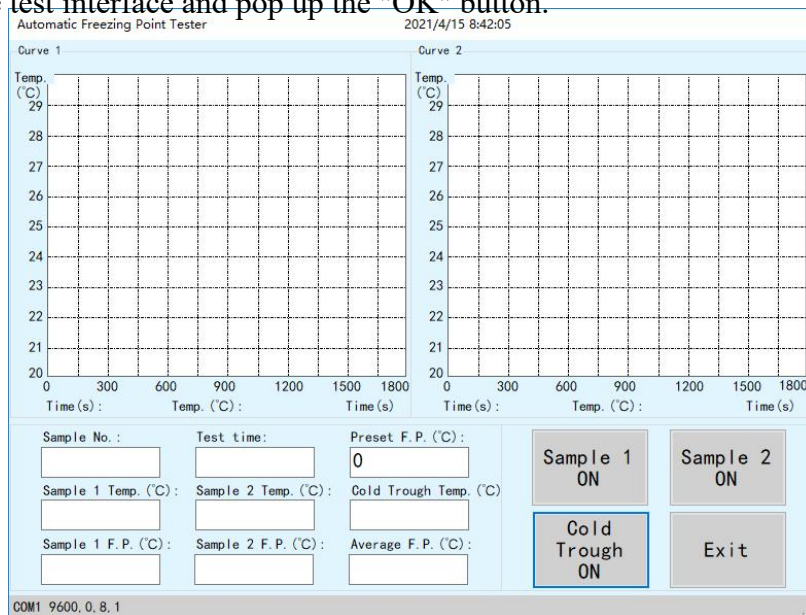

Fig.9
6. Freezing Point test (Fig.9)